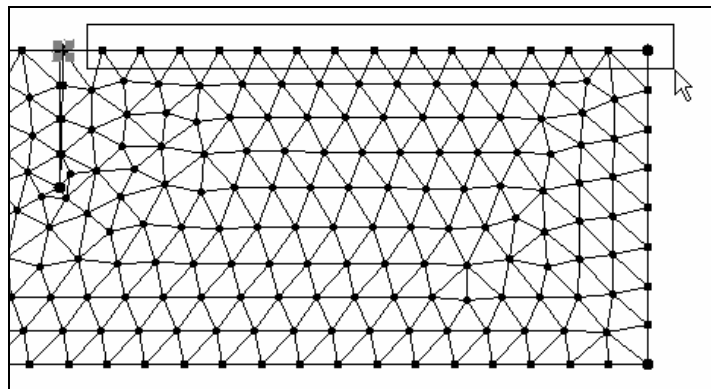

Figure 3-9 Selecting Nodes Where Head = 32.
10. Switch back to the *Select Nodes* tool . While holding down the Shift key, drag a box that just encloses all of the nodes on the top boundary to the right of the sheet pile, as shown in Figure 3-9.